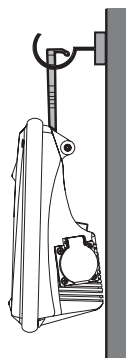

Fig. 9
3.1.3.1 Hanging-loose from the hook. (see Fig. 9).